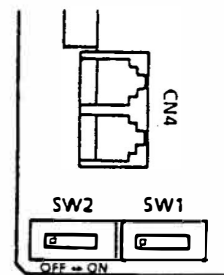

Figure 200-33 EXK-Z () KTU Switch Location
- B. CO/PBX line 1 is controlled by SW1 and CO/PBX line 2 by SW2. Refer to Figure 200-33 EXK-Z () KTU Switch Location.